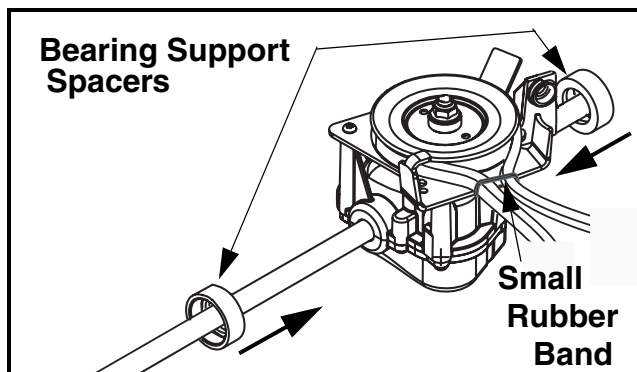

FIGURE 19
52. Install the belt onto the new Transmission, Item 1 of 753-05865, pulley. Ensure the belt is inside of the transmission's belt guides. Place a small rubber band around the belt to hold the belt onto the pulley and within the guides. See Figure 19.
53. Slide a Bearing Support Spacer, Item 7 of 753-05865, onto each end of the transmission's output shafts. The smaller diameter bore of the spacer must be next to the transmission body. See Figure 19.